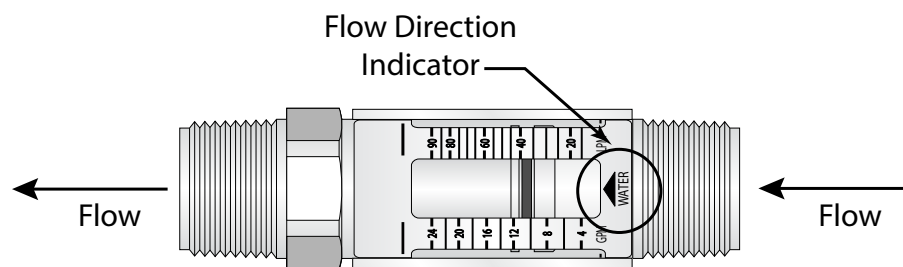

Figure 4: Flow direction indicator
These meters accept flow in one direction. Align the *Flow Arrow*, located on the bottom of the meter's flow scale, in the same direction as the anticipated line flow. See *Figure 4*.
3. Thread the flow meter and coupling onto the inlet pipe and hand tighten. Make sure the flow direction arrow on the flow meter corresponds with the system flow direction. See Figure 4.
6. Make sure the flow direction arrow on the flow meter corresponds with the system flow direction. See *Figure 4 on page 9*. Lubricate the union O-ring and connect the union together.
7. Place the flow meter in between the two installed brass fittings. Make sure the flow direction arrow on the flow meter corresponds with the system flow direction. See Figure 4 on page 9. Thread the two brass hex couplers into the flow meter body.
8. Place flow meter between the two installed fittings. Make sure the flow direction arrow on the flow meter corresponds with the system flow direction. See *Figure 4 on page 9*. Thread the two hex couplers onto the flow meter body.
2. Thread the inlet of the flow meter onto the appropriate pipe connection. Make sure the flow direction arrow on the flow meter corresponds with the system flow direction. See *Figure 4 on page 9*.